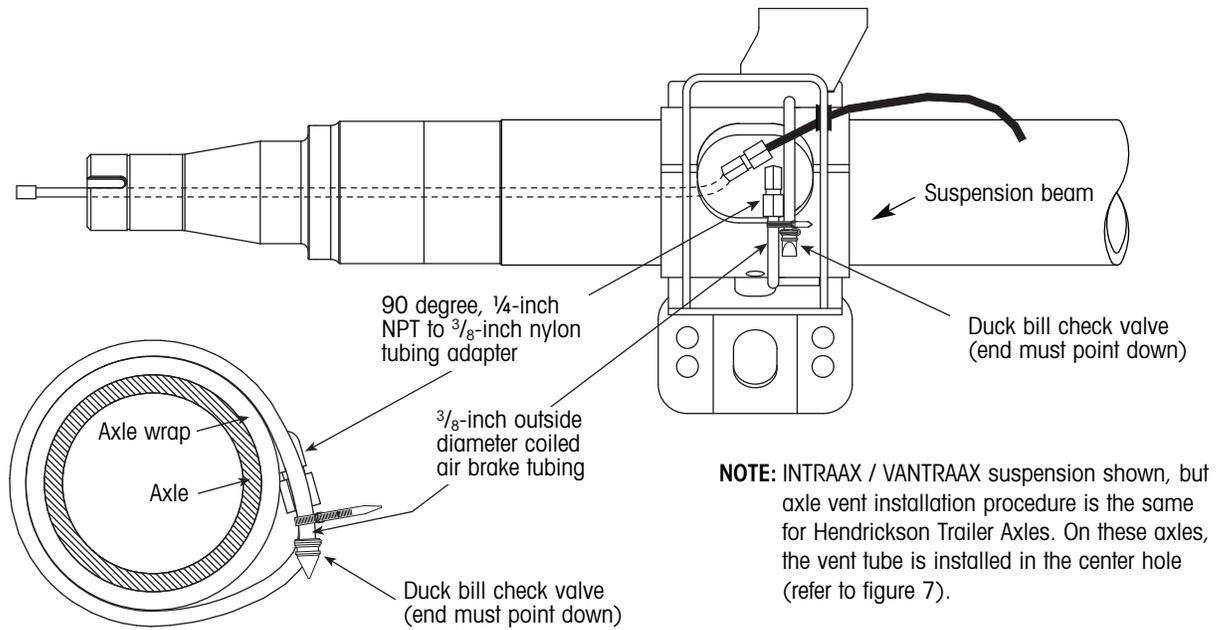

Figure 21. Typical axle vent installation
1. Install a 90 degree, 1/4-inch NPT male to 3/8-inch nylon tubing adapter in the remaining 1/4-inch threaded hole in the axle tube (figure 21).
2. Loop the 3/8-inch outside diameter coiled tubing around the axle. On INTRAAX / VANTRAAX suspensions, loop the coiled tubing around the axle inside the suspension beam as shown in figure 21. If not already installed, attach the duck bill check valve to the tubing making sure the end points down to prevent contamination (figure 21). To attach the duck bill check valve, slide the duck bill check valve onto the tubing and secure with the provided clamp. Do not use glue or any other substance that could plug the duck bill valve.